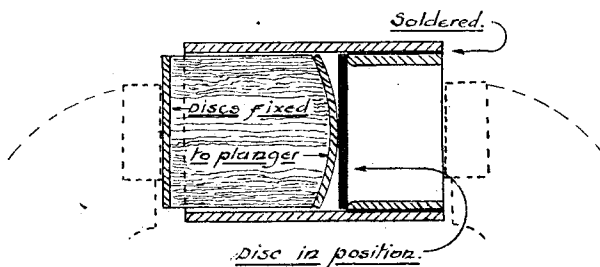

Fig. 1
(1)—It was necessary to dish a large number of brass discs $1\frac{1}{2}$ in. in diameter by $\frac{1}{16}$ in. thick. It was essential that they should all be curved to a pre-determined extent, and to effect this the jig shown in Fig. 1 was found satisfactory.